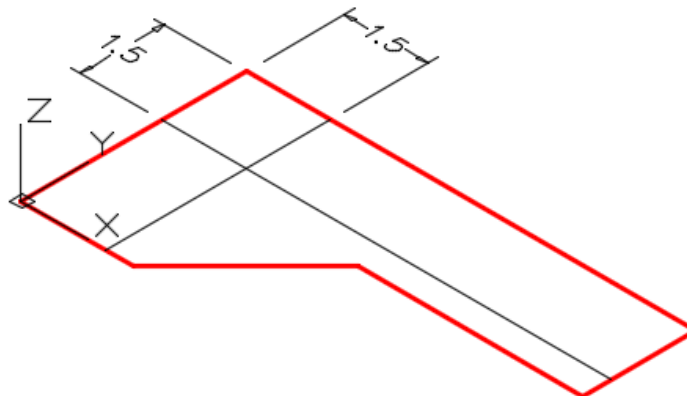

Figure Step 6
Step 6 Using the OFFSET command, offset the two lines 1.5 units as shown in the figure. Change the layer properties of the two lines to layer: Construction. (Figure Step 6)